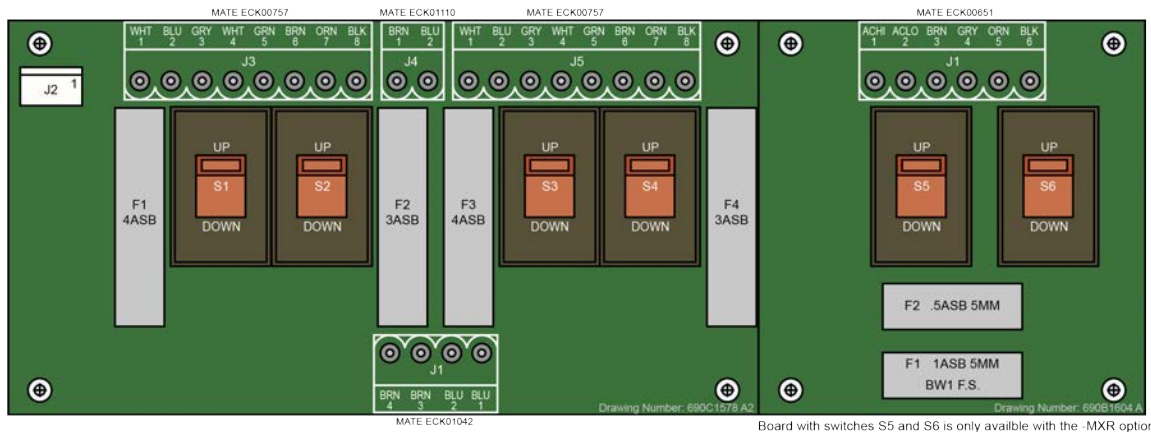

Figure 2-5: Soft-Start / Voltage Board
3. Use Table 2-8 to set all of the voltage selector switches to the position indicated for the desired operating voltage. See Figure 2-5 for additional information.